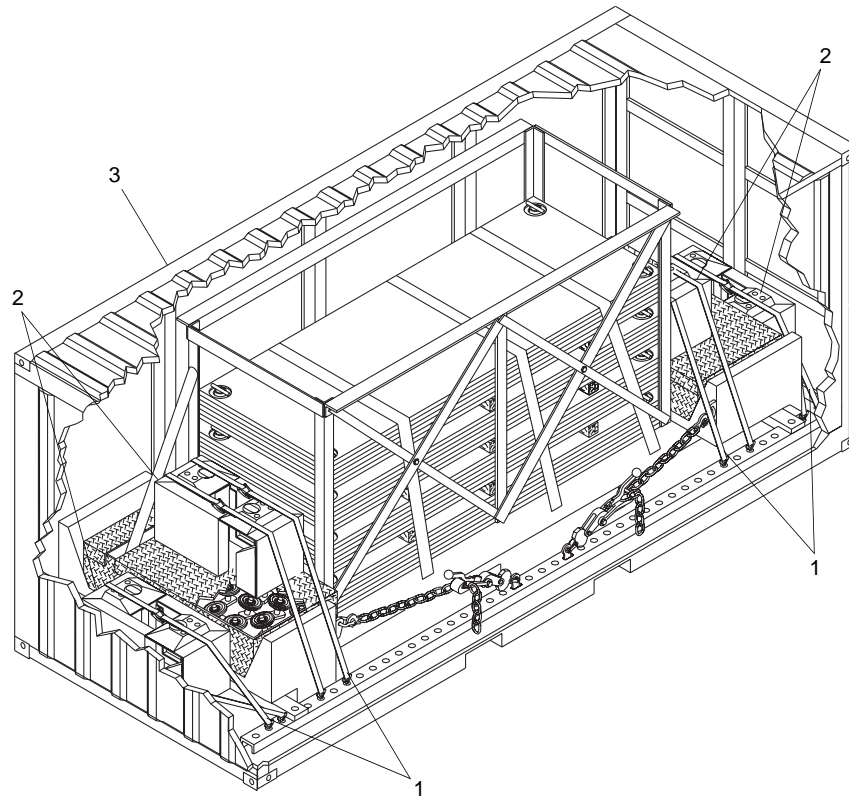

Figure 35. Securing Corner Fenders
19. Install tie down straps (figure 35, item 1) to secure corner fenders (figure 35, item 2) in deck mat container (figure 35, item 3).